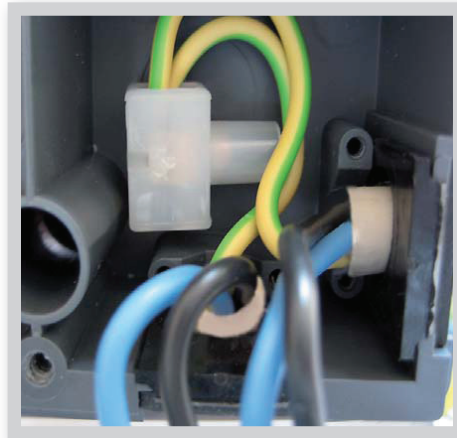

Fig. C 2.1
Fig. C 2.1 a
Fig. C 2.1 b
4. Strip the cable in max. length of 65 mm, insert and fit the cable strain relief. Strip the last 10-11 mm of all the wires (Fig. C 2.1 a).
5. Fix the PE terminal (see Fig. C 2.1 a).
6. Hold the box as shown in Fig. C 2.1 b
7. Press the terminal e.g. with your thumb (Fig. C 2.1 b) or with a suitable screwdriver (Fig. C2.1 d) and wire the cables as shown in diagrams in section D.
8. Lock the housing lid onto the top margin of its bottom counterpart, push the cables inside and close the housing gently (Fig. C 2.1 c and C 2.1 e).
**Warning!** Mind the cables in order to prevent unintentional pressing the clamps (Fig. C 2.1 a, C 2.1 c and C 2.1 e).
Fig. C 2.1 c
Fig. C 2.1 d
Fig. C 2.1 e
*Mind the cables in order to prevent unintentional pressing the clamps. (Fig. C 2.1 e, lateral view).*